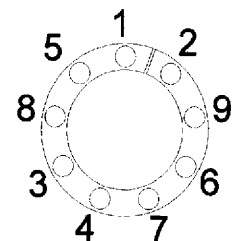

FIGURE 2.
3. Tighten the screws in the sequence shown in figure 2. Tighten the ring of screws in 5-6 stages, with the applied torque increasing gradually with each stage, until the final screw torque of 69Nm / 610lb.in / 51lb.ft is achieved on every screw. At least 2 circuits are required at full torque to ensure every screw is fully tightened to specified torque. **Failure to follow this procedure may seriously damage the shaft / locking assembly.**